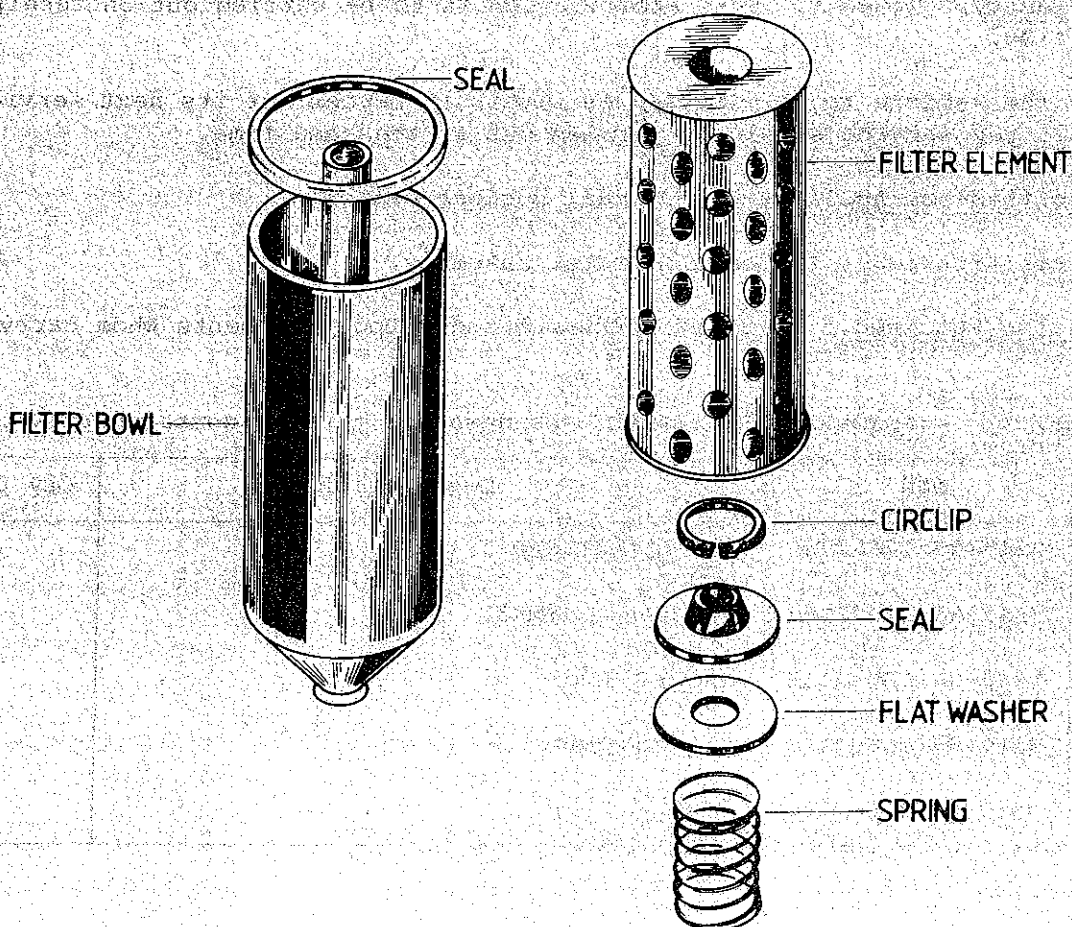

FIG 1 - ENGINE OIL FILTER AND COMPONENT REPLACEMENT SEQUENCE
9. Refer to Fig 1 and proceed as follows:
- b. Remove the filter element from the filter bowl and inspect components, as shown in Fig 1, and note differences or deficiencies.
- (1) Spring,
- (2) Flat washer,
- (3) Gasket seal, and
- (4) Circlip.